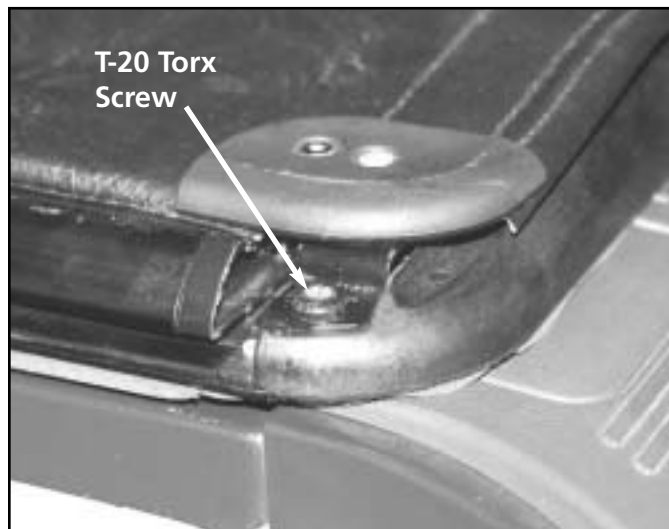

Figure S-19
1. Remove the two (2) T-20 Torx screws from the front rail and slider retainers. See figure S-19.
12. Install the two (2) T-20 Torx screws through the slider retainer onto the front rail and fasten. Refer back to figure S-19.